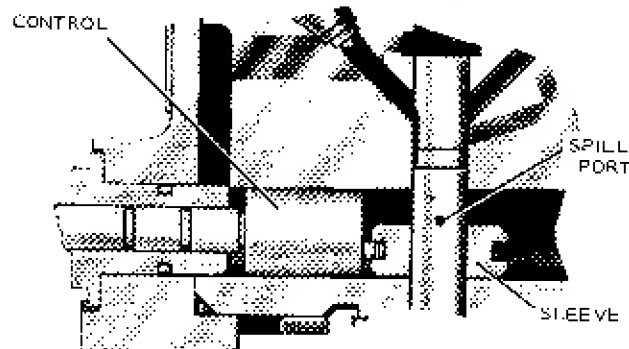

FIGURE 3-22. NO DELIVERY
**No Delivery:** With the metering sleeve in the full downward position, the spill port is open so no fuel is trapped above the plunger. Therefore, no fuel delivery results. As the governor actuates the control shaft to move the metering sleeve upward on the plunger, fuel is trapped above the plunger as the port closes. Fuel delivery corresponds with the load placed on the engine. See Figure 3-22.